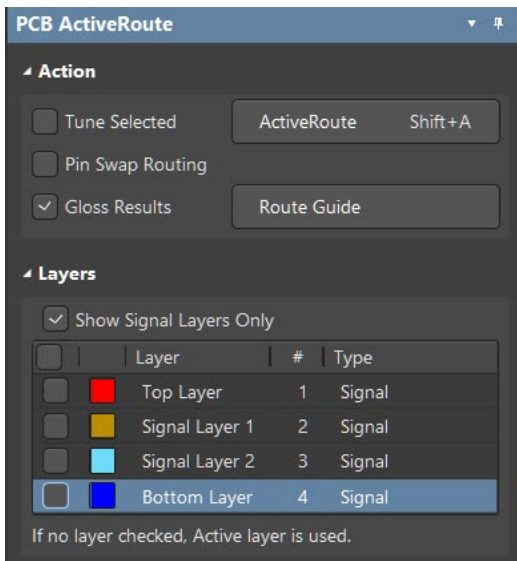

Figure 2. ActiveRoute panel with no layers enabled
7. Now with those 4 connections selected, click on the **Panels** button in the lower right and open the **PCB ActiveRoute** panel. Note there are currently no layers enabled, Figure 2.